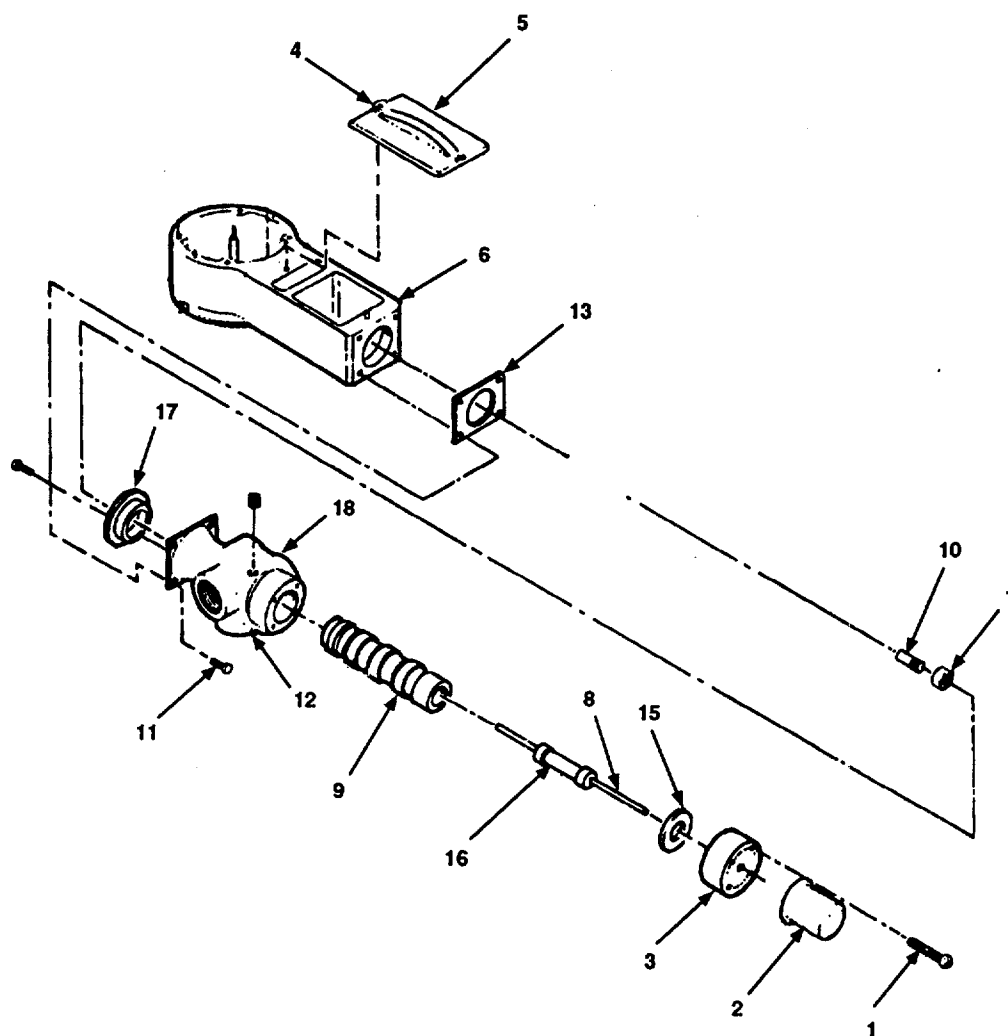

Figure 5-3. Pilot Valve Assembly Maintenance.
- a. Remove two screws (Figure 5-3, 1).
- b. Remove end cap (2) and lock spring cap (3).
- c. Remove thumbscrew (4).
- d. Remove yoke cover (5) from gear box (6).
- e. Loosen rod lock nut (7).
- f. Remove valve rod (8) from link spring coupling (9).
- g. Remove four screws (10).
- h. Remove valve housing (11) and gasket (12) from gear box (6). Discard old gasket (12).
- i. Remove retainer ring (13).
- j. Remove rod lock nut (7) from valve rod (8).
- k. Slide entire valve rod (8) and slug assembly (14) out of valve housing (11).